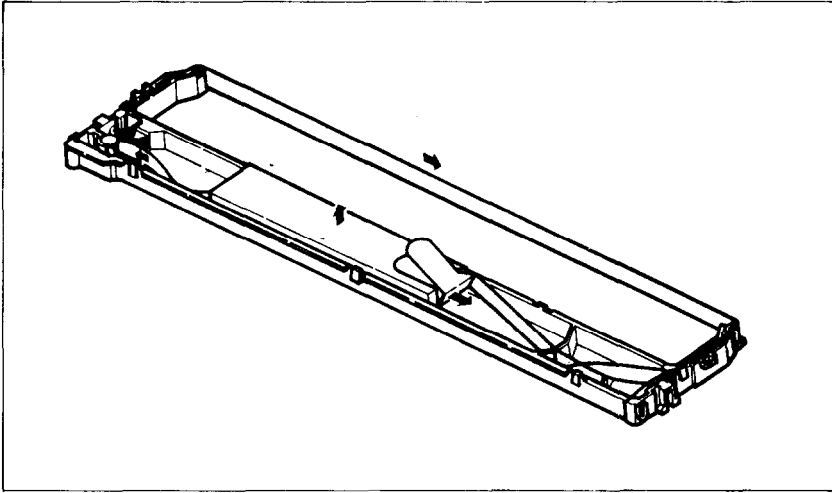

Figure 8-3. Make sure that the ribbon is not twisted when you thread it through its path.
- Pull sufficient ribbon out of the holder, and thread it as shown in Figure 8-3. Be careful that the half-twist in the ribbon is positioned in the right-hand section of the ribbon cartridge, between the two guide posts. Make sure that no twists occur anywhere else.